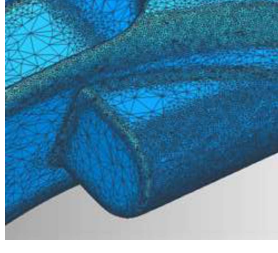

Figure 103
- Click **Apply**, the mesh will redraw similar to **Figure 103**.